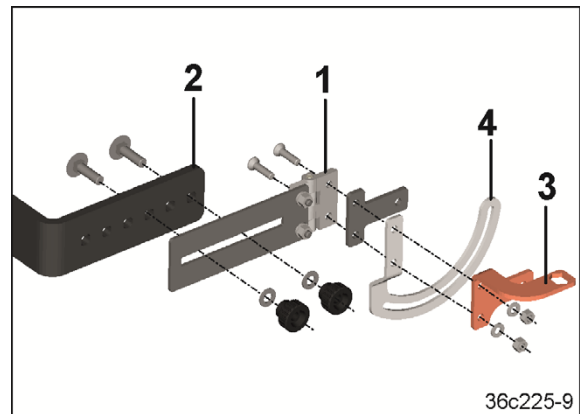

Fig. 96
4. Bolt the middle part (Fig. 96/1) with the top link bracket (Fig. 96/2), section (Fig. 96/3) and guide (Fig. 96/4) for the magnets.